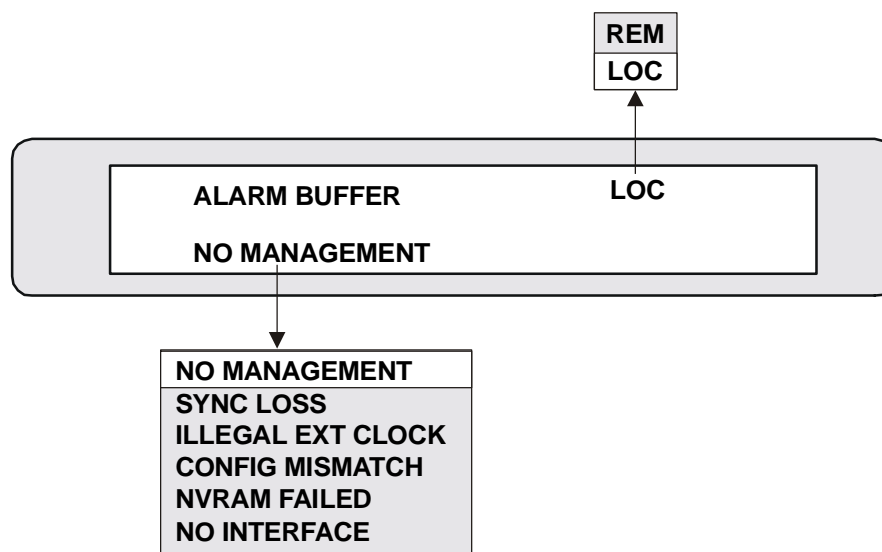

Figure 5-1. Displaying Alarms
6. Press the SCROLL button to display alarms stored in the buffer (see Figure 5-1).